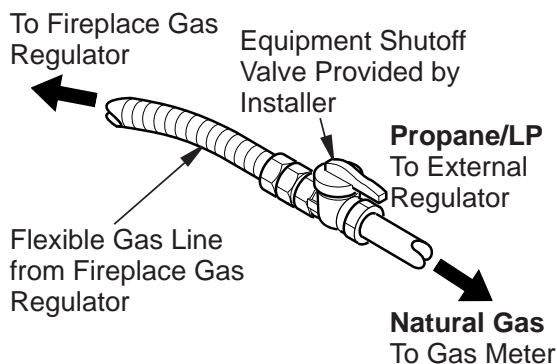

Figure 20 - Attaching Flexible Gas Lines Together
4. Attach the flexible gas line to gas supply (see **Figure 20**). Check tightness of flexible gas line attached to gas regulator of fireplace (see **Figure 20**).
NOTICE: Most building codes do not permit concealed gas connections. A flexible gas line is provided to allow accessibility from the fireplace (see **Figure 20**). The flexible gas supply line connection to the equipment shutoff valve should be accessible.